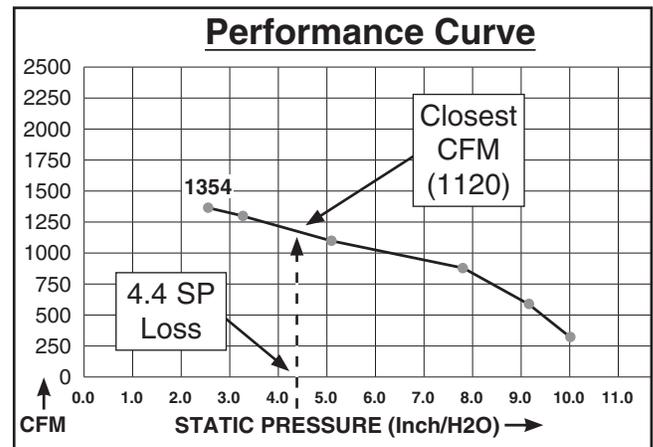

Figure 46. CFM for static pressure loss of line connected to a dust collector & router.
5. Compare the total static pressure loss for that line to the closest CFM given in **Figure 46** for your dust collector on **Page 29**.
Example: A typical **Data Sheet Performance Curve** is illustrated in **Figure 46**. Find 4.4 on the Static Pressure axis (the amount of total static pressure loss calculated in **Figure 45**), then refer to the closest value on the CFM axis—approximately 1120 CFM.